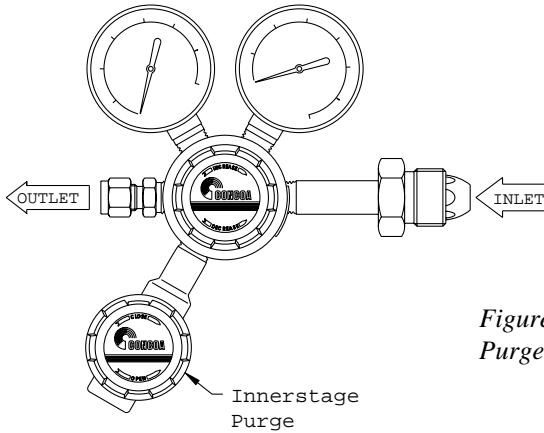

Figure 2. Innerstage Purge Option.
3.3 CYLINDER CHANGE - ISOLATED GAS SYSTEMS. For cylinder change using the inner stage purge option, perform the following as shown in Figure 2:
- e. Slowly open inner purge valve located at the seven (7) o'clock position until you hear a slight "hiss".
- f. Close inner purge valve after five (5) seconds.